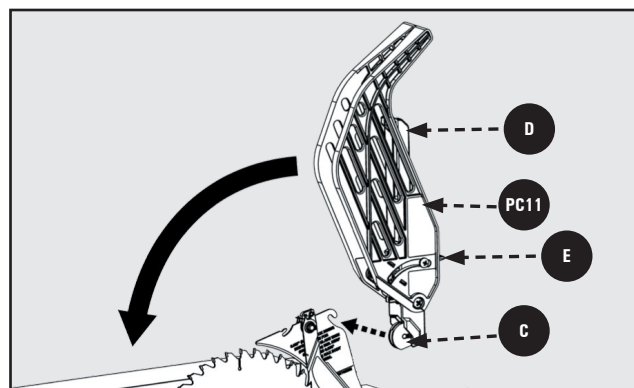

Figure 21
1. Before installing the Blade Guard Assembly, make sure the riving knife is raised to the thru-cut position. While holding the Blade Guard Assembly **PC11** in a vertical position, hook the Locating Pin **C** at the back end of the Blade Guard Assembly into the slot at the back edge of the Riving Knife. See Figure 21.
3. See Figure 21. While holding down on the front of the Support Arms **D** press the Lock Tab **E** down until it snaps into the locked position. Check to make sure the Guard is locked onto the Riving Knife by pulling on the guard. If the Guard is not locked, the Lock Tab **E** will flip up to the unlocked position.